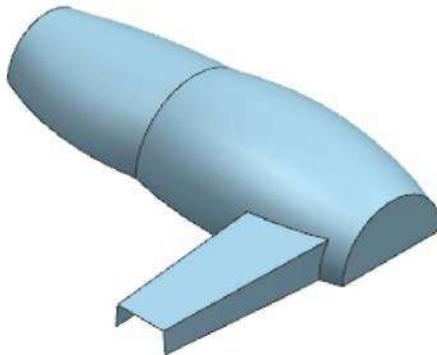

Figure 11-98 Resultant surface for the handle
8. Select all elements from the second section string, refer to Figure 11-98. Make sure that the direction arrows are on the same side of the sections.
11. Choose the **OK** button from the **Through Curves** dialog box; the handle surface is created, as shown in Figure 11-98.